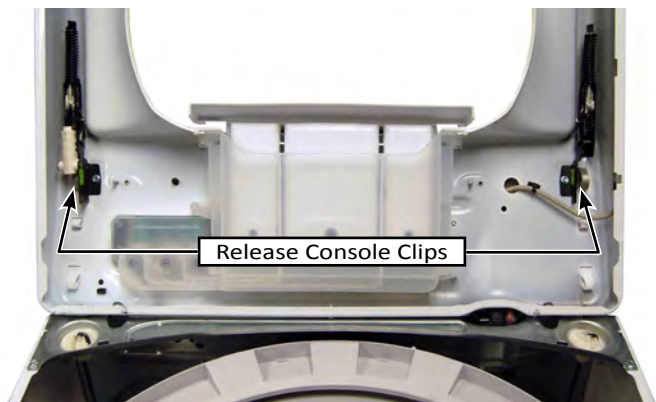

Figure 4
8. Using a flat blade screwdriver, depress the console clips (identified by the two arrows) to release console from top panel (see Figure 4).